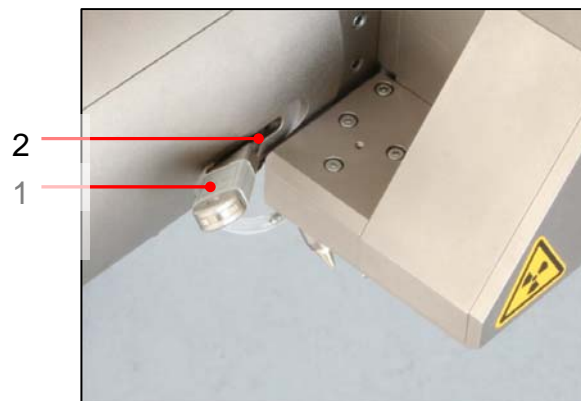

Fig. 46: Exchanging filter slide
2. Push the filter slide into the aperture on the measuring head (see Fig. 46) and rest it in the required position